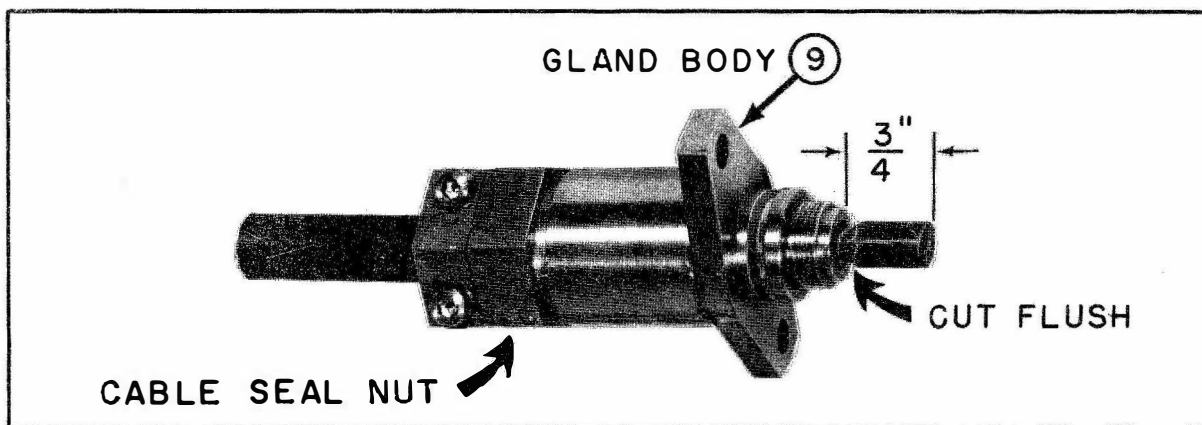

Figure 5-13c. Removing Dielectric
STEP 4. - Remove the dielectric from the center conductor by cutting it flush with the end of the fitting body (see figure 5-13c).